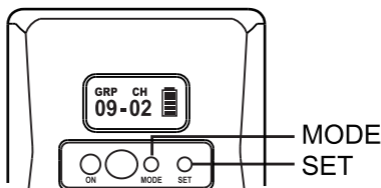

Fig. 7
1. Press MODE button ⑧ to access all the functions.
2. Press SET button ⑨ once to denote a change. Existing parameter starts flashing. Press SET button second time to change the programmed parameters, Fig. 7.